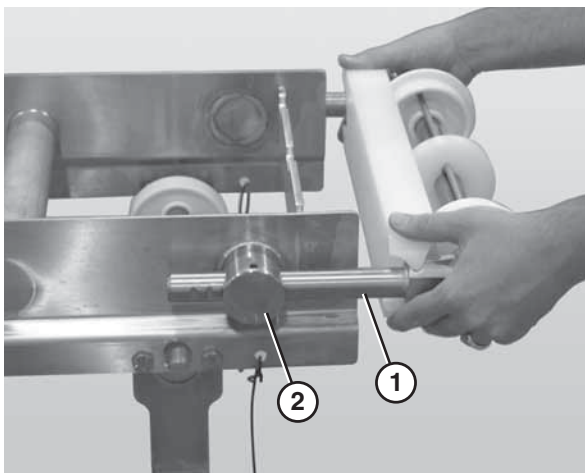

Figure 24
1. Slide the bearing shafts (**Figure 24, item 1**) into the take up blocks (**Figure 24, item 2**).